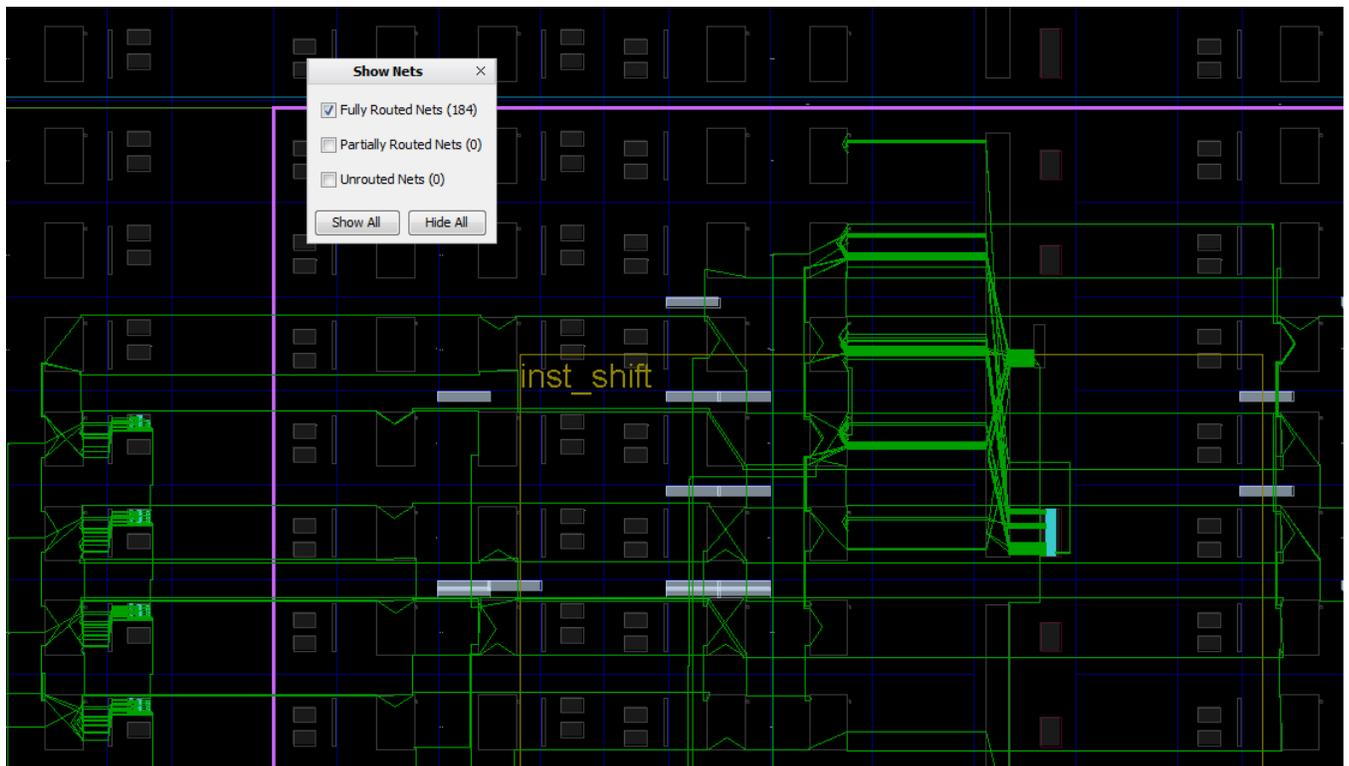

Figure 7: Close-up of First Configuration Routed
4. In the routed design view, click the **Settings** button  to ensure that all routes by type (Fully Routed, Partially Routed, or Unrouted) are visible, as shown in Figure 7.